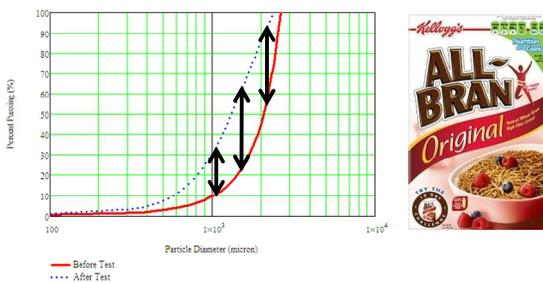
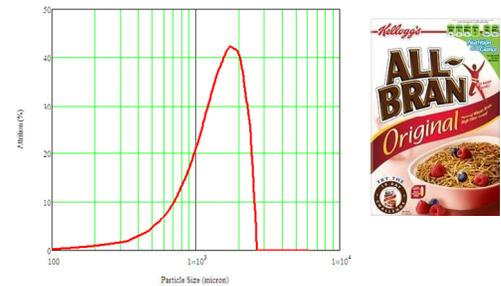

Figure 3. Typical degradation due to stress-strain events at a prescribed stress and total strain: stress of 414 psf and a strain of 52 in/in
Figure 4. Cumulative degradation at a stress of 414 psf and a strain of 52 in/in
**Relating Test Data to the Process.** Consider bran cereal that has been subjected to stress-strain events. We use the difference in cumulative particle size between the unstrained and strained materials as a measure of particle breakage (Figure 3). This is expressed as a difference in cumulative particle size as indicated in Figure 4. Note that the peak in Figure 4 corresponds to the greatest difference between the two cumulative curves before and after